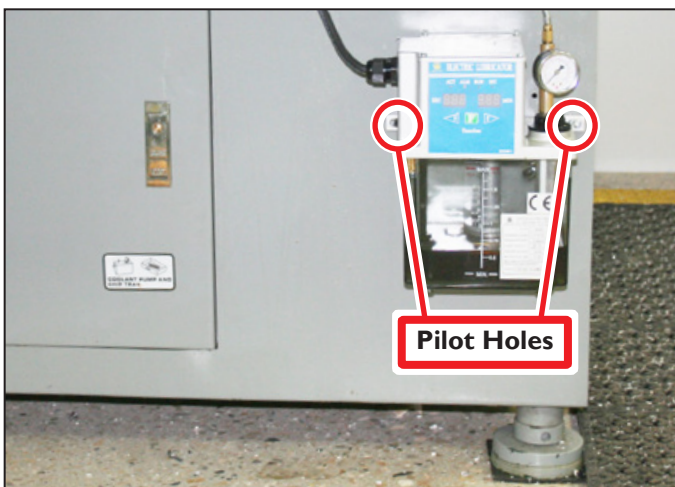

Figure 3
2. Identify Pilot Holes for mounting automatic oiler, located on the left-hand side of stand under chip pan (see **Figure 3**).